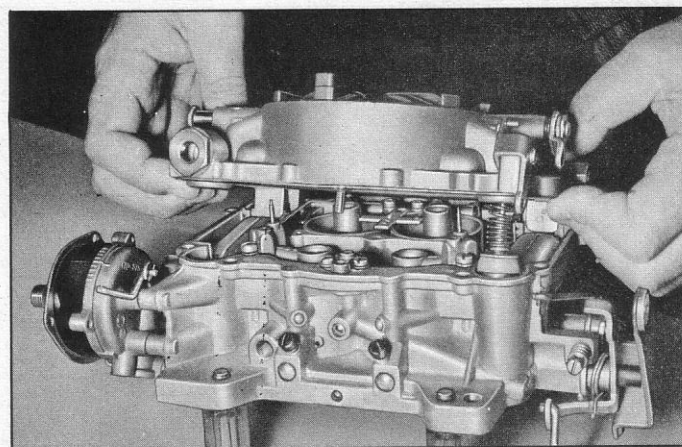

Fig. 97—Removing Bowl Cover
5. Remove fuel inlet fitting, gasket and strainer. Remove bowl cover screws and carefully lift cover from Body Section (fig. 97) to avoid damaging floats or pump plunger.